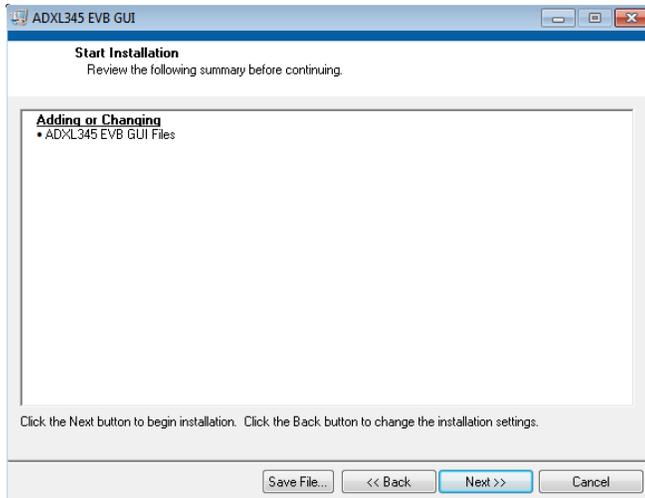

Figure 12. ADXL345 EVB GUI Start Installation (Listing Varies Based on PC Requirements)
3. Read the license agreement before accepting it; then, click **Next**. The installer lists the required components to install on your PC (see Figure 12).